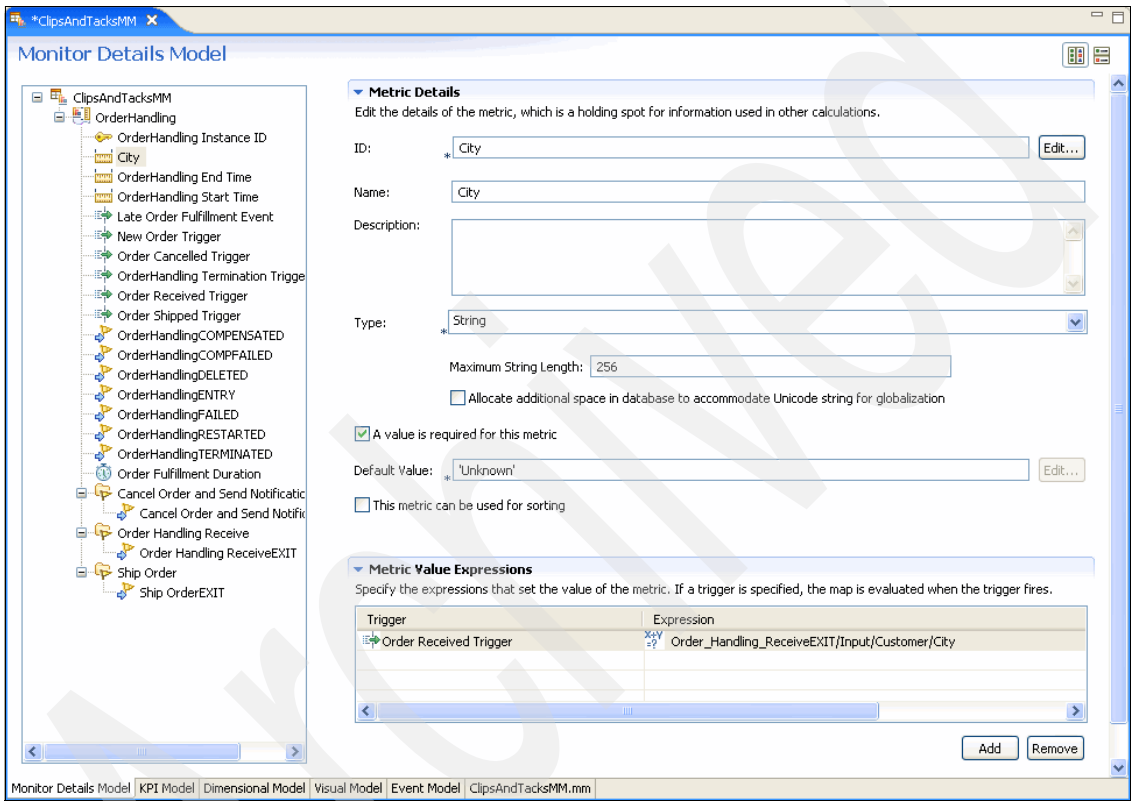

Figure 5-41 City metric overview
3. In the Monitor Details Model panel (Figure 5-41 on page 189):
Figure 5-41 shows the result of these settings In the Monitor Details Model panel.